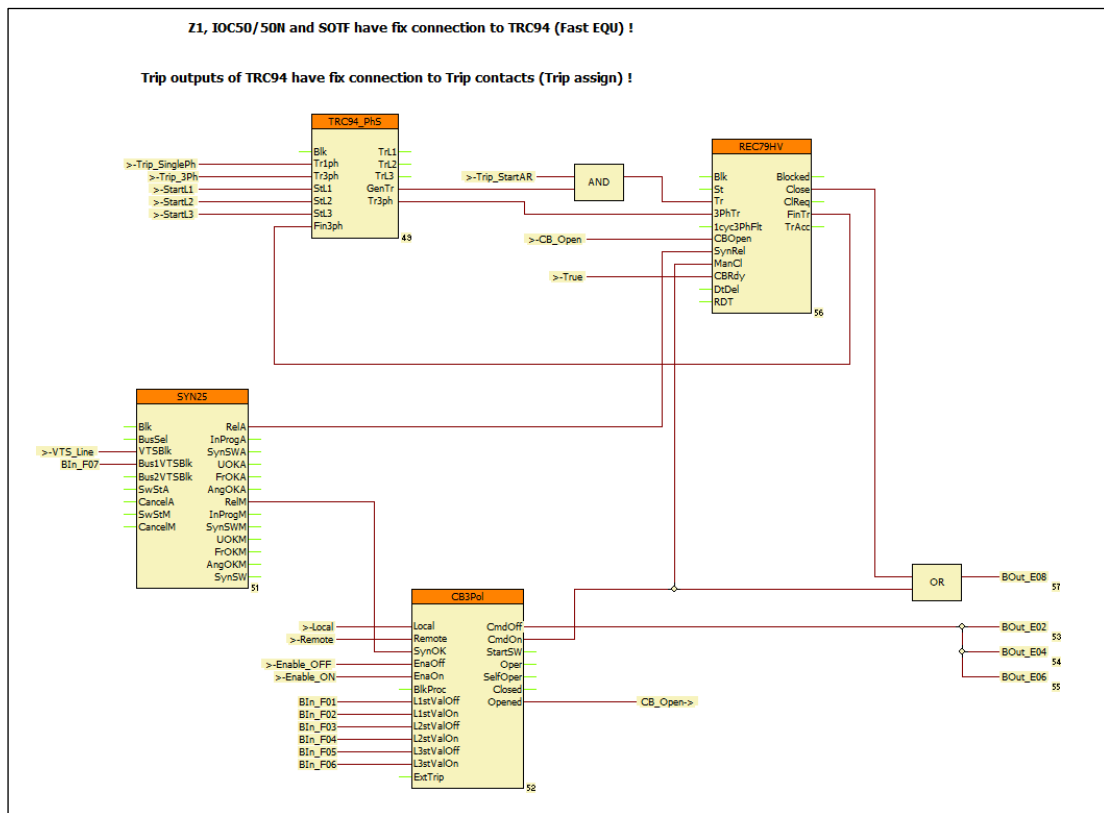

Figure 5-4 Example: closing the circuit breaker with synchro-check
Figure 5-4 shows an example for the application of “SYN25” cynchro-check functionblock. In this Figure it is supposed that the fast protection functions operate according to the factory configuration and they control the TRIP contacts applying two steps of the preparation and command generation phases. This part of the program is not visible in “Master” level. (The description of the fast operating protection functions are listed in the configuration description of the devices.)
According to *Figure 5-4*, the local command issued via LCD of the device or the remote command received from the remote SCADA system is processed by the „CB3pol” functionblock (Output „CmdOff”). This control is programmed in the factory to “BOut\_xx” variables. The user can perform any modification in the graphic programming.
In *Figure 5-4* the close command is connected directly to a dedicated output. (This is usually the fourth contact of the TRIP hardware module.)
*Figure 5-4* includes the application of the „REC79\_HV” automatic reclosing function. The start signal „Trip\_StartAR” can be programmed by the user. The automatic reclosing function is started only if the preceding trip command was performed by the circuit breaker, i.e. for example that the function is not disabled. The AND gate on this Figure performs this checking.
The evaluation of the status signals indicating the open state of the circuit breaker poles in OR gate is needed for the operation of the automatic reclosing function. According to the scheme of *Figure 5-4* the open state is indicated by at least one pole open state of the circuit breaker. (For simplicity, this Figure shows a realization without checking the FALSE signal of the closed states.)
*Figure 5-4* supposes that the CB ready signal is not connected to the device; accordingly the steady TRUE state signal is connected to the „CBRdy” input of the „REC79\_HV” automatic reclosing function. If the real signal is available, the signal must be connected similarly.
An extension to the example in *Figure 5-4* is the following: If there is no continuous synchron state because the frequency at one side of the circuit breaker is different to that of the other side, then the voltage vector of one side rotates continuously as compared to the other one. In this case a synchronous switching is attempted to restore the normal operation of the network.